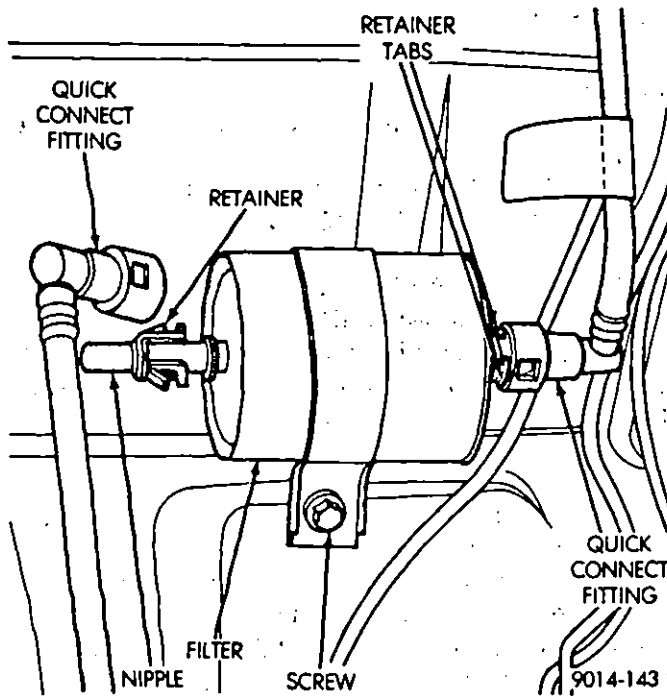

Fig. 3—Fuel Filter Removal/Installation
(4) Depress retainer tabs and slowly pull the connectors from fuel filter. Note that the retainers stay on the fuel filter nipples.
(5) Remove screw holding the fuel filter in place (Fig. 3). Remove fuel filter.